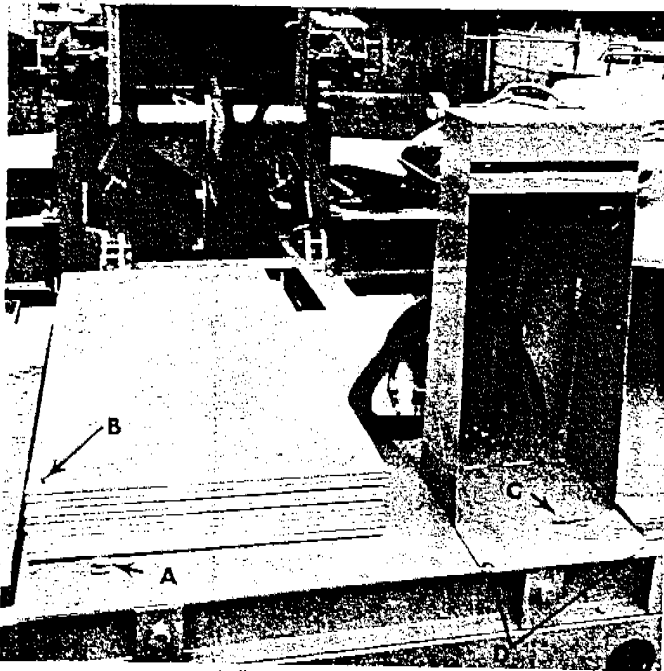

Fig. 49
- a. Set the bally rack over the pin on the left side of the rear trailer deck lid (a). SNAP KEY in place. (Fig. 49)
- b. Load the 2 short ballys first by slipping the holes in the ballys over the loading pin on the rack (b). (Fig. 49)
- a. Fit the bottom plate of the control stand over the pin on the right side of the rear trailer deck lid (c). SNAP KEY in place. (Fig. 49)
- b. Secure the control stand plate to the rear trailer deck with 2 bolts and nuts (d) (Fig. 49)